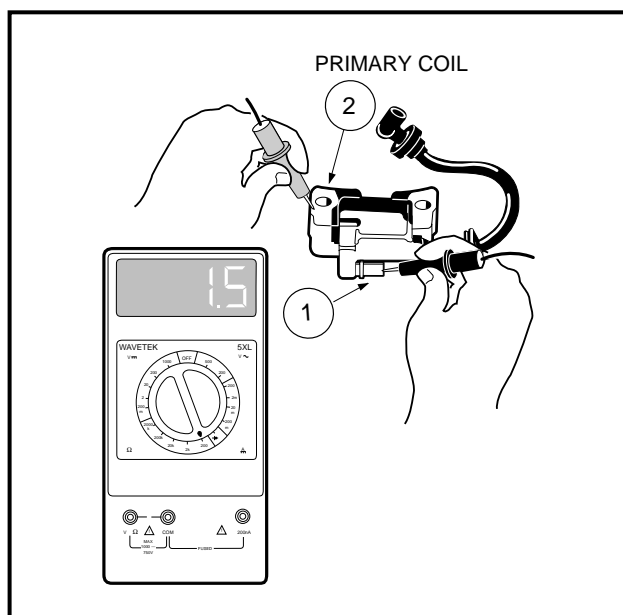

Figure 11-41 Test Ignition Primary Coil
- 2.2. If the resistance is not between 0.6 - 1.7 Ω (ohms), remove the coil from the engine. **See Ignition Coil Removal, Section 12, Page 12-25**. Retest with a multimeter set to 200 Ω (ohms). Place the black (–) probe of the meter into the terminal on the coil (1), and place the red (+) probe on the core (2) (**Figure 11-41, Page 11-35**). If the resistance is still not between 0.6 - 1.7 Ω (ohms), replace the coil.